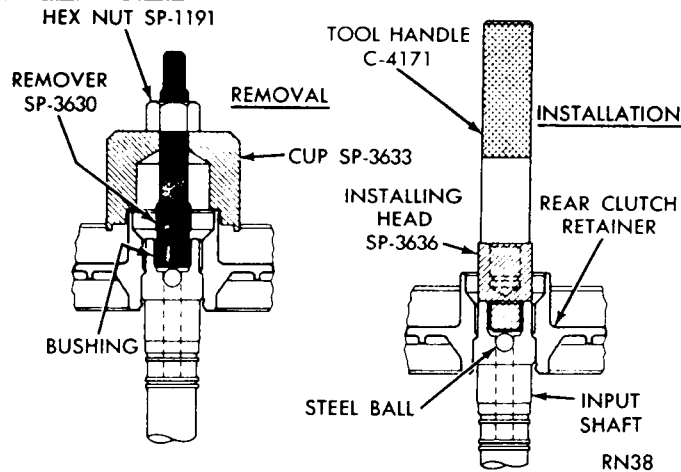

Fig. 31—Replacing Input Shaft Bushing (A-727)
(1) Clamp input shaft in a vise with soft jaws, being careful not to clamp on seal ring lands or bearing journals.
(2) Assemble the remover Tool SP-3630, cup Tool SP-3633, and hex-nut Tool SP-1191 (Fig. 31).
(3) With cup held firmly against clutch piston retainer, thread remover into bushing as far as possible by hand.
(4) Using a wrench, screw remover into bushing 3 to 4 additional turns to firmly engage threads in the bushing.
(5) Turn hex nut down against cup to pull bushing from input shaft.
(6) Thoroughly clean input shaft to remove chips made by remover threads. Make certain small lubrica-
(7) Slide a new bushing on installing head Tool SP-3636 and start them in the bore of input shaft.
(8) Stand input shaft upright on a clean, smooth surface and install handle Tool C-4171 in the installing head (Fig. 31). Drive bushing into shaft until tool bottoms.
(9) Thoroughly clean input shaft and clutch piston retainer before assembly and installation.